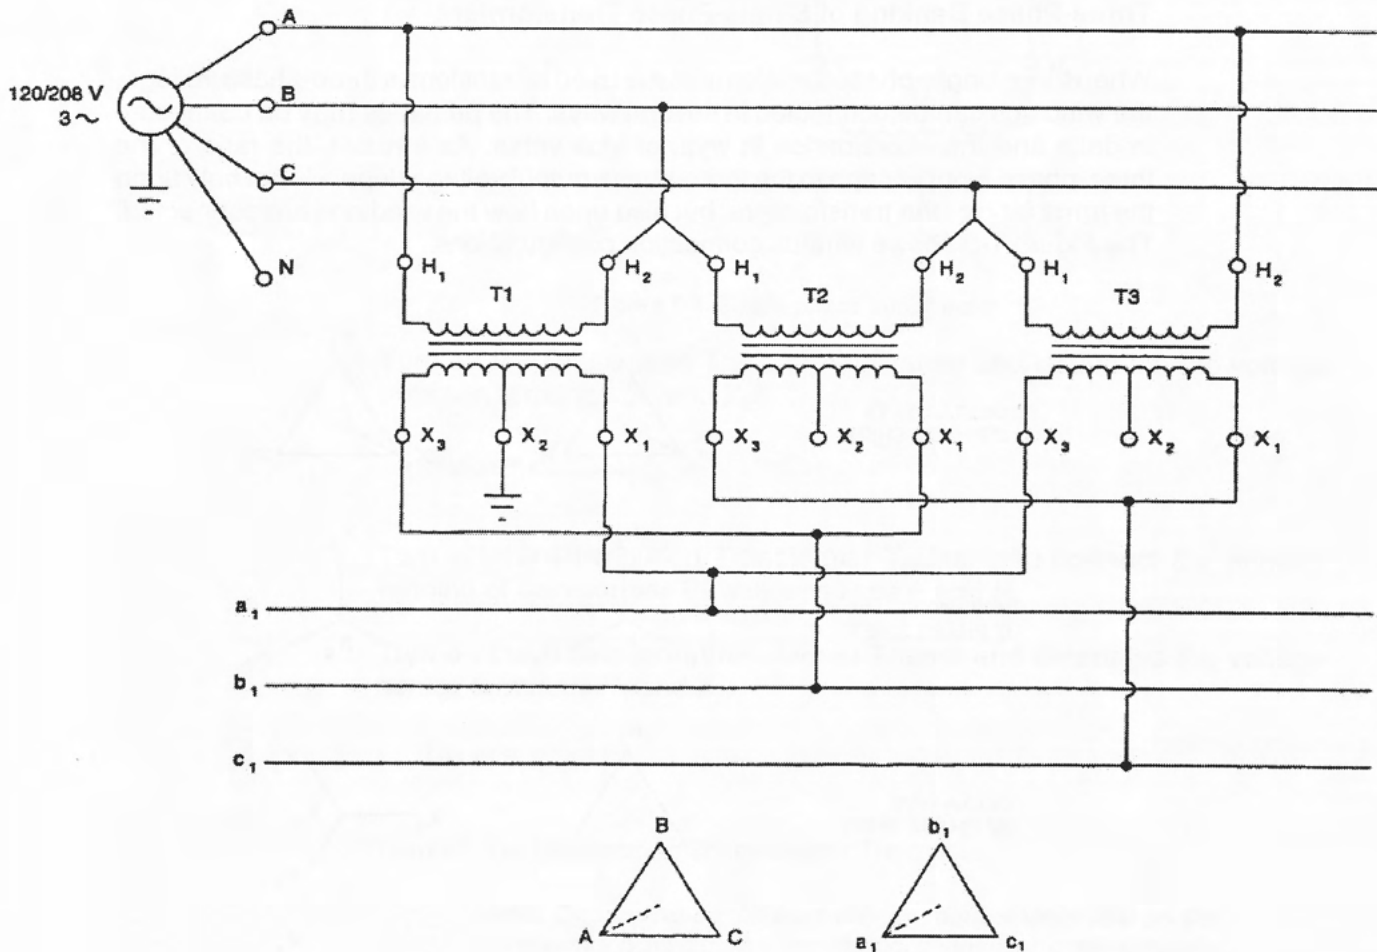

Figure 1-6. Delta-delta, 0° phase shift.
- ☐ 6. Connect the circuit shown in Figure 1-6. Use transformers T1, T2, and T3 and lines a_1 , b_1 , and c_1 . Connect bushing X_2 of transformer T1 to the ground terminal.
- ☐ 7. Repeat the circuit shown in Figure 1-6. Use transformers T4, T5, and T6 and lines a_2 , b_2 , and c_2 . Connect bushing X_2 of transformer T4 to the ground terminal.